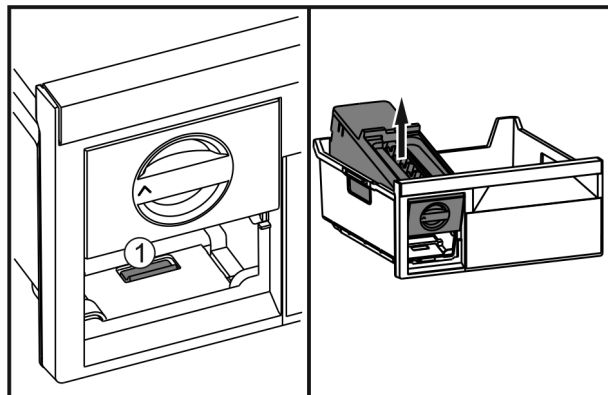

Fig. 70
- ▶ Press the lug *Fig. 70 (1)*, lift up the EasyTwist-Ice at the rear and take it out of the freezer drawer.